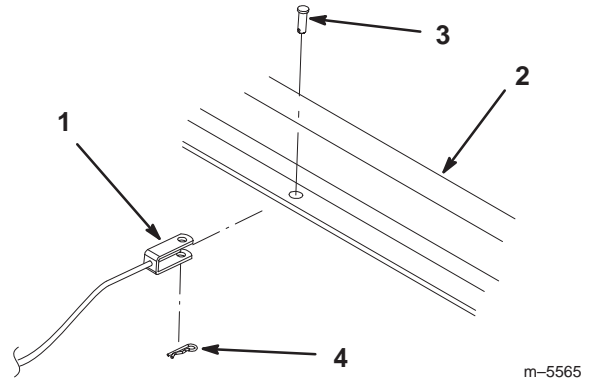

Figure 10
5. Connect the other end of the cable to the lift shaft with a cotter pin and hairpin cotter (1-3/16 in.) (Fig. 10).